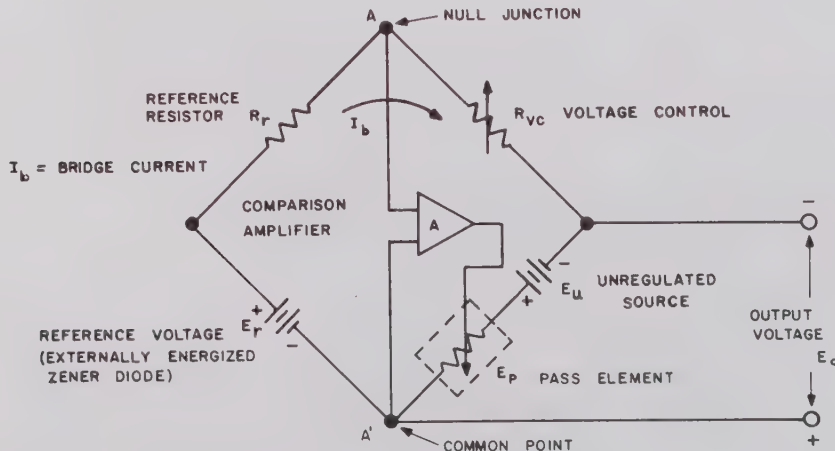

FIG. 3-4 KEPKO POWER SUPPLY AND COMPARISON BRIDGE CIRCUIT.
- 3-8 **GENERAL.** A few general remarks may be in order to familiarize the user of this equipment with the terminology and basic equations pertaining to remote programming of the Kepco PAT Power Supplies. Electrically, the power supply consists of the unregulated d-c source (E_U), the pass element (E_P), the d-c error amplifier (A), and a comparison circuit which resembles a 4-arm electrical bridge. (Refer to FIG. 3-4.) The elements of the bridge are arranged to produce a virtual zero at the amplifier input when the bridge circuit is at balance ($V_{AA'} = 0$). Any tendency for the output voltage to change in relation to the reference voltage (E_f) creates an error signal which, by means of negative feedback and the amplifier, tends to correct the output voltage towards restoration of bridge balance.